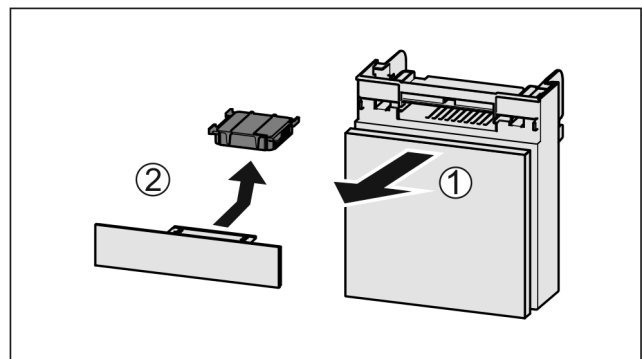

Fig. 199
- ▶ Pull out the compartment Fig. 199 (1).
- ▶ Remove the carbon filter Fig. 199 (2).